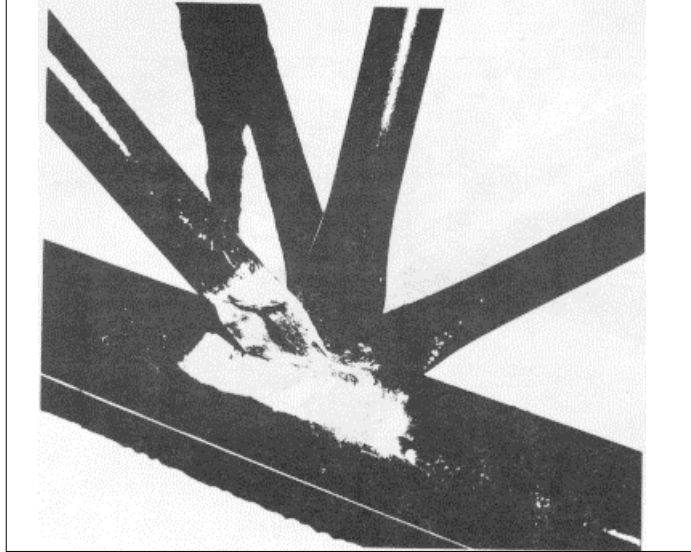

Fig. 16
- (2) Angle the cut to miss the diagonal. Note: This is a difficult cut to make. Use caution not to cut beyond the weld into the chord.
- (3) Grind cut surface square, i.e. grind the angular hacksaw cut square with the lattice for a good welding fit-up. Take care not to damage adjacent parts.
- (4) Check to see if replacement-tube will fit snugly onto stub and in the proper position and alignment. If necessary carefully shape or contour your replacement lattice for proper fit-up.
(5) Clean area to be welded to bright clean metal. See Figure 16.